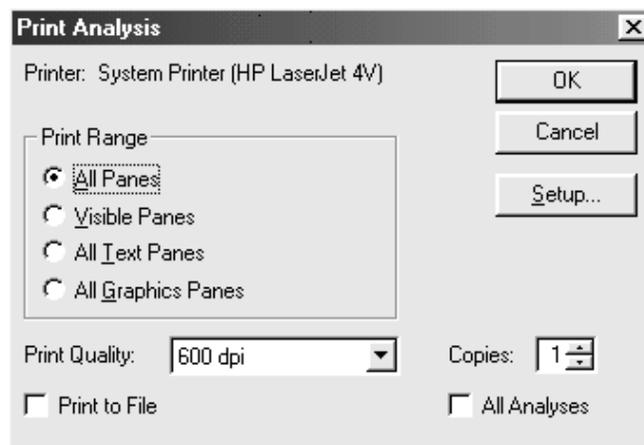

Figure 6-3. *Print Analysis Dialog Box*
3. Choose FILE... PRINT... from the Menu bar to display the Print Analysis dialog box (see Figure 6-3).